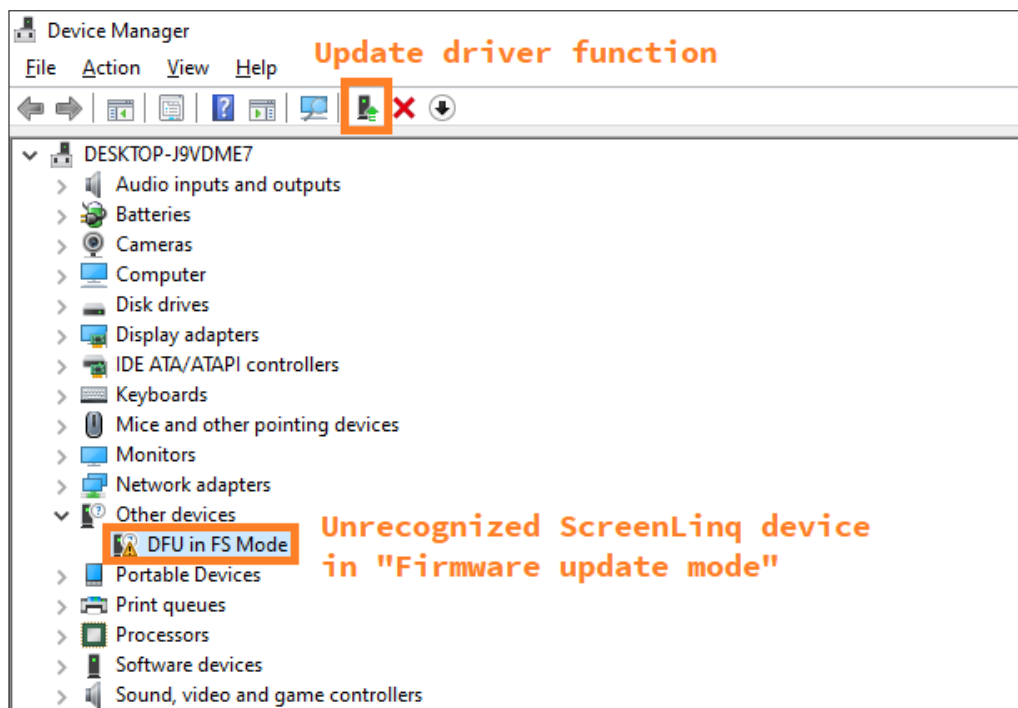

Figure 12: An unrecognized ScreenLinq device in Windows 10 Device Manager.
In the case of Microsoft Windows 10, a ScreenLinq device will appear in *Device Manager* as a device with a *Warning* symbol (see Fig. 12), indicating that such a device might not operate as desired.
- 2 Find a ScreenLinq device in *Device Manager* (see Fig. 12),